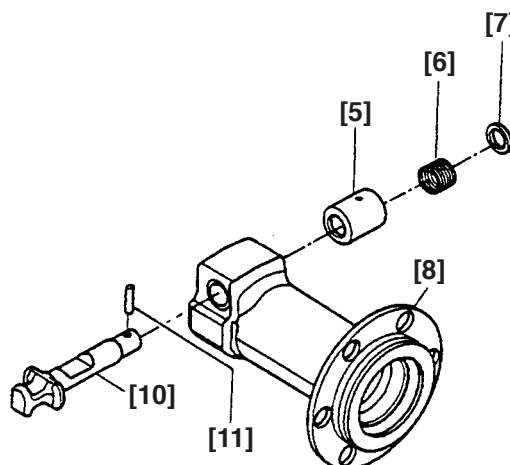

Fig. 11
(6) Reassembly of the Stop Lever [10]:
Prior to reassembly, thoroughly coat the grease (Doubrex 251, Part No. 980757, is recommended) on the sliding portion of the Stop Lever [10]. As illustrated in Fig. 11, place the end surface of the Stop Lever [10] on the flange portion of the Front Cover [8] and compress the Lever Spring [6] by pressing Damper (B) [7] with two slender flat-blade screwdrivers. Then, align the holes of the Stop Lever [10] and the Spring Case [5], and insert the Needle Roller [11].